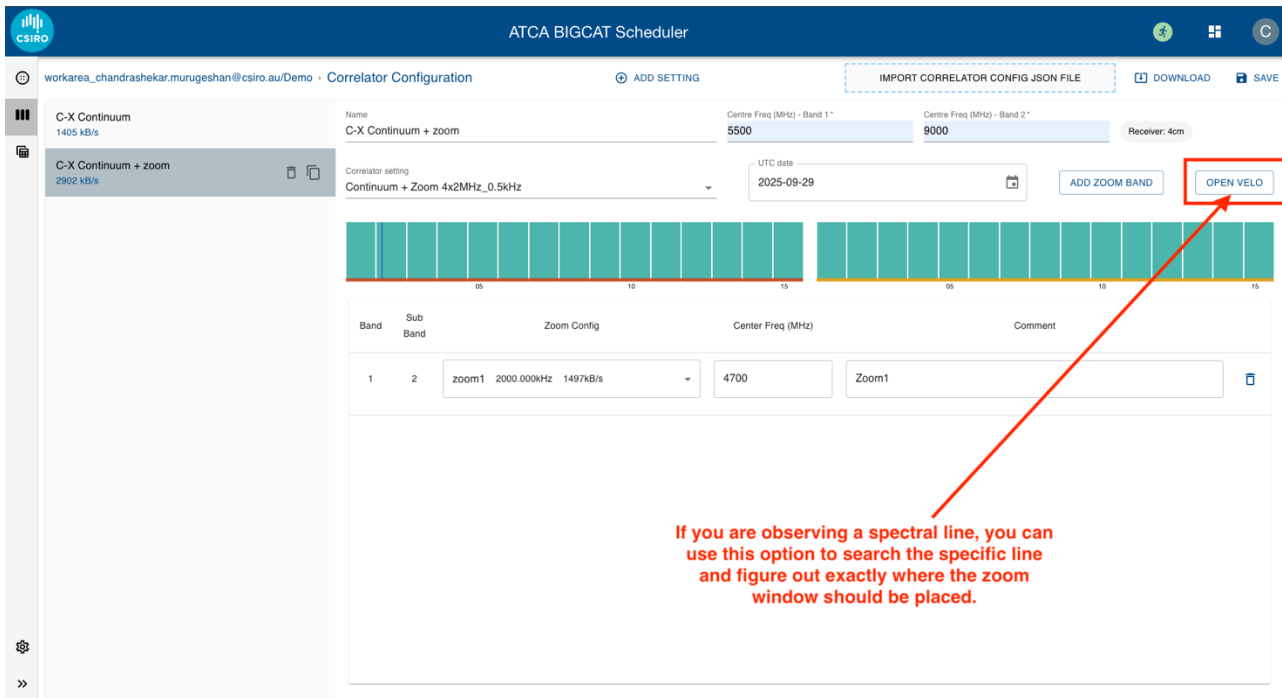

Figure 8: Adding the zoom windows and setting the appropriate centre frequencies for the zoom windows.
- “**Spectral – 9 kHz**”: 13824 channels per 128MHz sub-band with a spectral resolution of 9 kHz. This mode is only available for observations in the 16 cm (L) band.
- If you are observing a spectral line, you can use this option to search the specific line using the “OPEN VELO” tab on the top right (see Fig. 8), select your target to figure out exactly where the zoom window should be placed.